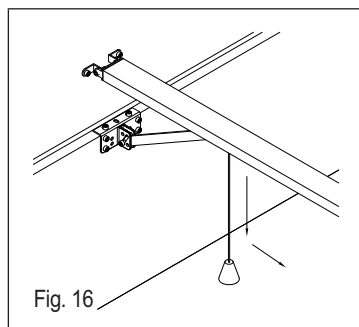

Fig. 16
- pull first downwards and then towards the gearmotor (see figure 16).